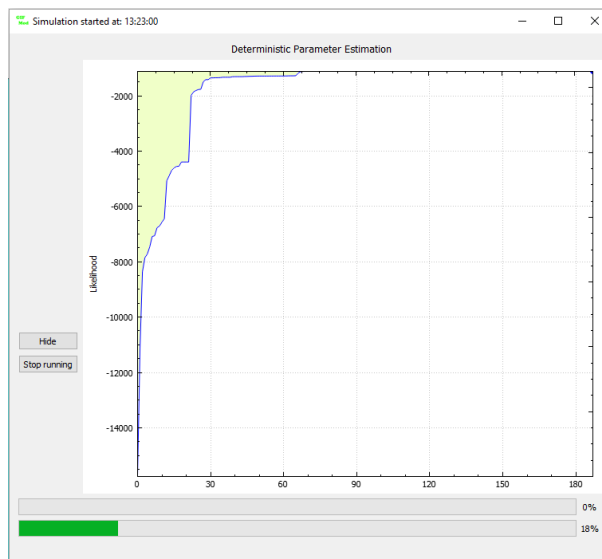

Figure 5: Inverse modeling progress window during deterministic parameter estimation stage
- Click on the inverse modeling icon  on the left side tool bar. Inverse simulation can take up to one hour depending on the number and speed of the CPUs of the computer being used for the simulation. Wait until the deterministic inverse modeling and the MCMC is finished. The progress bars on the **Simulation** window shows the percentage of each stage on inverse modeling being completed (Figures 5 and 6).